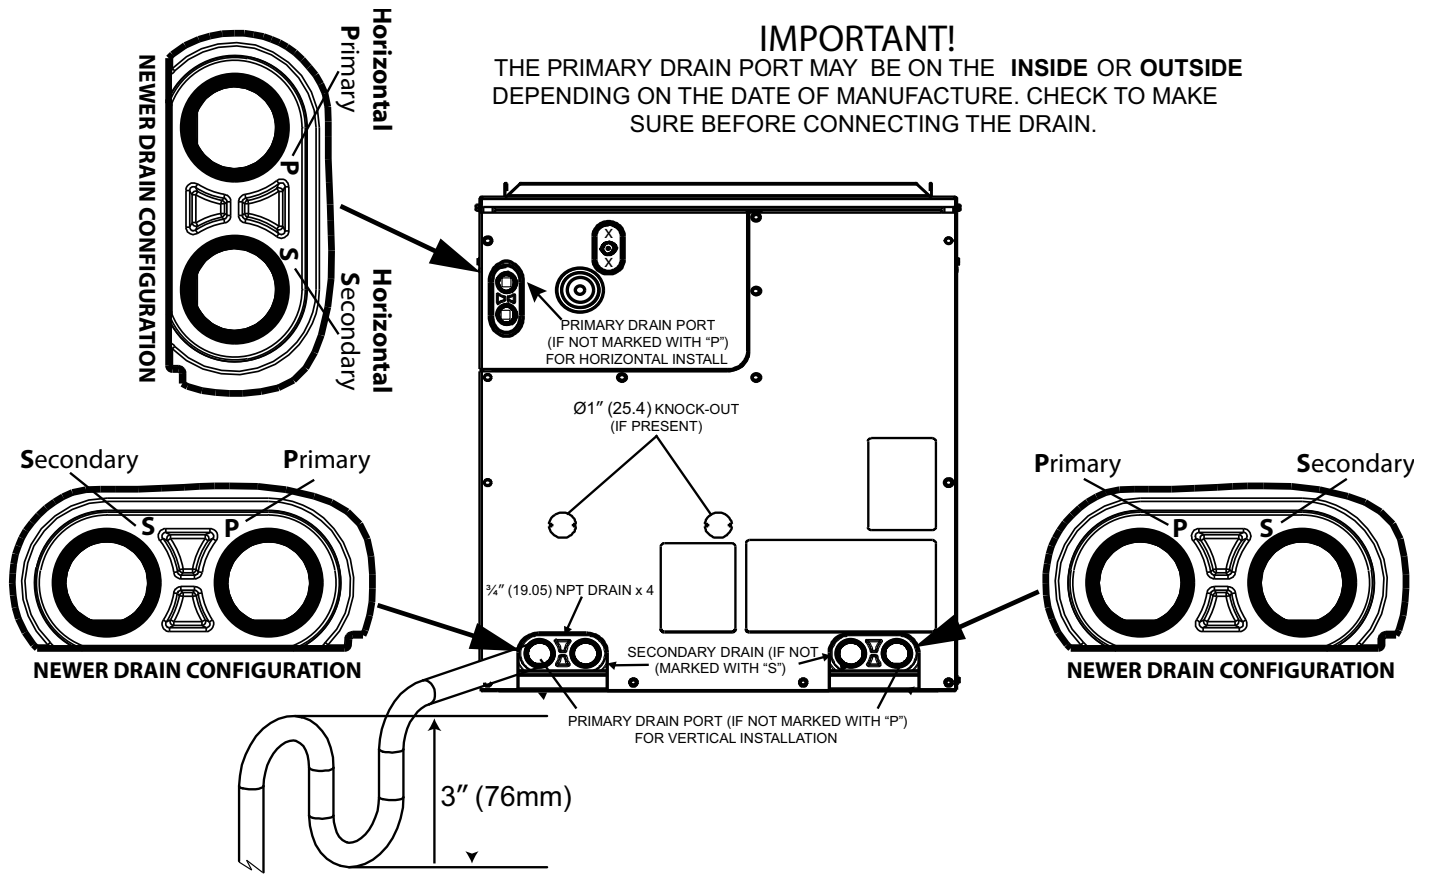

Fig. 14 – Condensate Trap and Drains (shown in vertical configuration)
In horizontal installation with a 4-way multipoise furnace, break off perforated duct flanges on furnace. See furnace Installation Instructions. For condensate connections, use the correct drain lines per Fig. 14.
IMPORTANT: Depending on the date of manufacture, the unit's primary and secondary drains may be reversed from what you are accustomed to. Please check carefully before connecting the drain. Refer to Fig. 14.
- Make trap at least 3 inches (76 mm) deep and no higher than the bottom of unit condensate drain opening (Fig. 14).